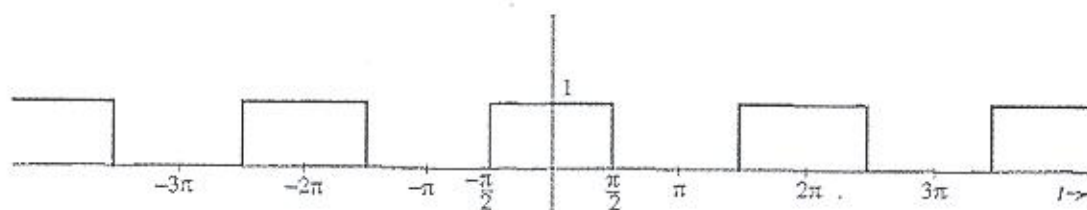

Figure 1
**Problem number (1)**
b) In the part of the network shown in Fig. 1:
(A) Find Fourier series for the periodic signal shown in Figure 1, and sketch its amplitude and phase spectrum.
(B) Find the power for the signal shown in Figure 1.